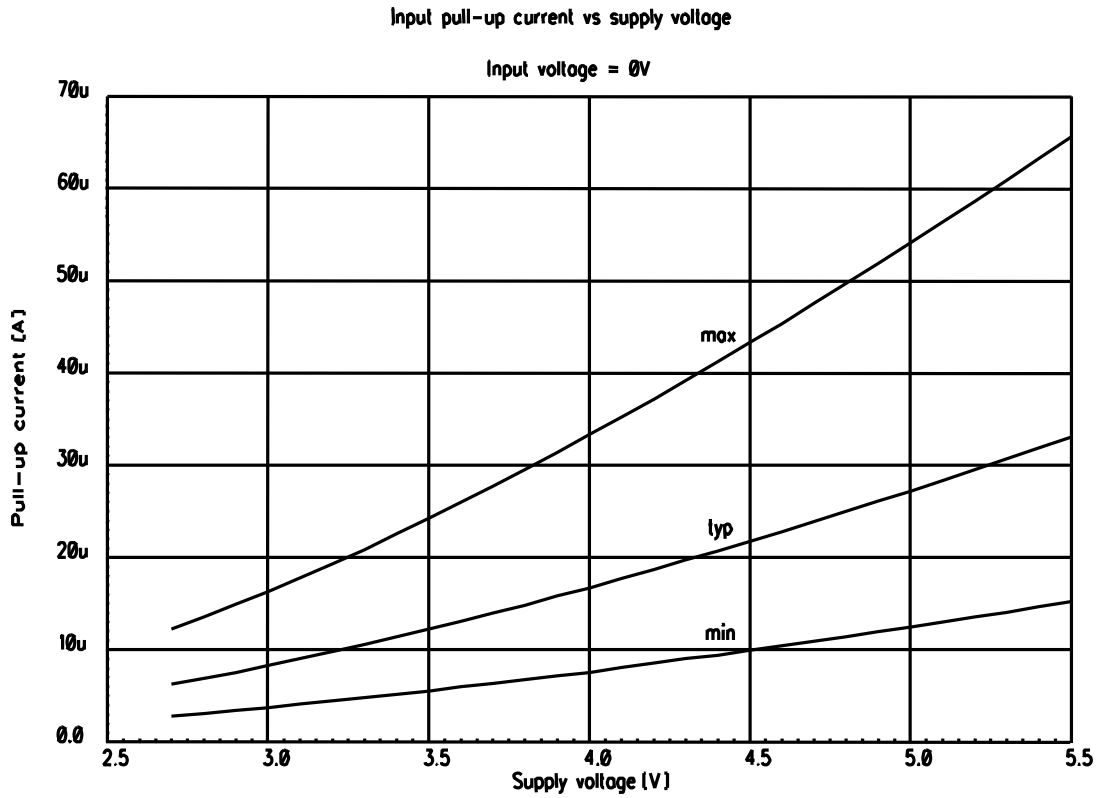

Figure 6: Pull up characteristics for the CLK/NWUP and NRES/PD pin.
Note: At room temperature, resistor values of \approx 10 k Ω are suggested for the μ C interface. For other temperatures to be calculated from figure 6.
- 2) cf. Figure 6